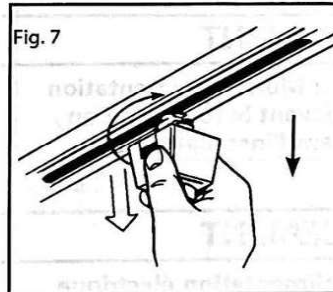

Figure 7.
See Figure 7.
1. Depress Thumb Latch until latch is free of track opening. Twist adapter 1/4 turn (90°) until contact head is free. (Figure 7.)